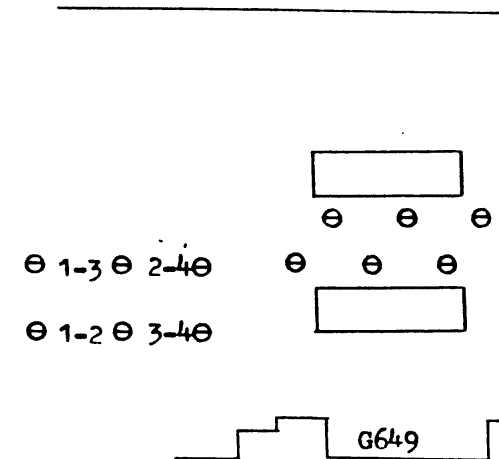

Fig. 1
1. Field selection jumpers must be checked for proper configuration. The six split lugs used for field selection are located on the baseboard between E4 and E5 in the middle right side of the module (Fig. 1 & 2) The selection scheme is indicated as shown.